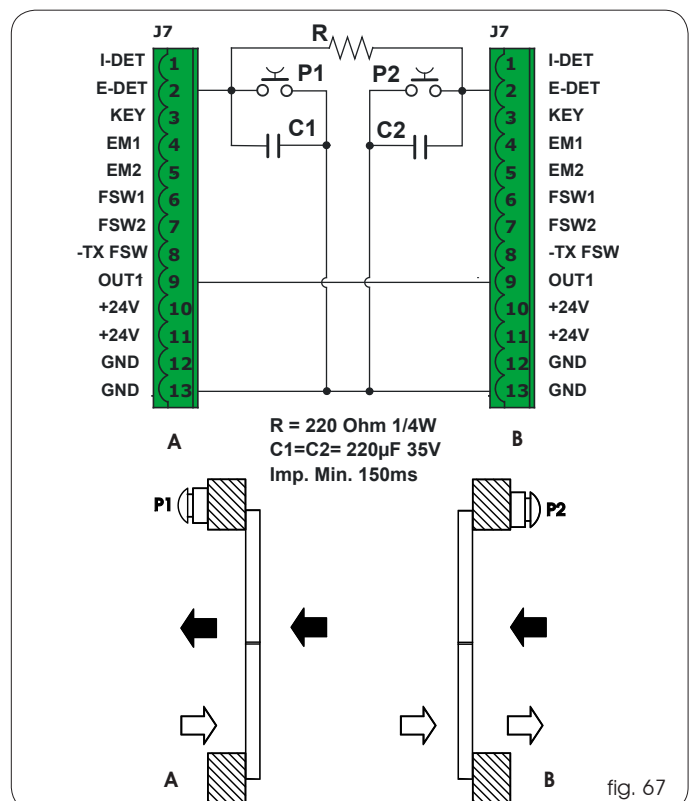

fig. 67
- Make the connections between the J6 terminal boards of the two E140 control boards, of the push-buttons and additional electronic components as shown in figure 67.